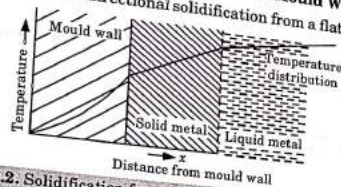

Fig. 1.6.2. Solidification from a flat mould wall (unidirectional).
1. Fig. 1.6.2 shows unidirectional solidification from a flat mould wall.